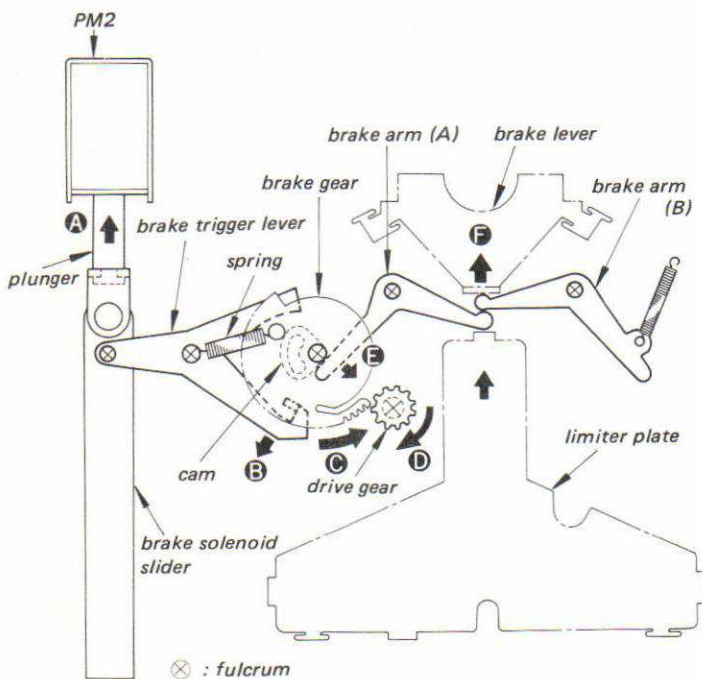

Fig. 1-1
Brake Release during fast forward mode and rewind mode. See Fig. 1-1.
4. When the cam pushes the head arm (A) in the direction shown by the arrow **E**, the limiter plate moves in the direction shown by the arrow **F**. Thus, the head deck is lifted and the head contacts the tape.
5. With the limiter plate moving, the brake lever moves in the direction shown by the arrow **F** in Fig. 1-1 and releases the brake.